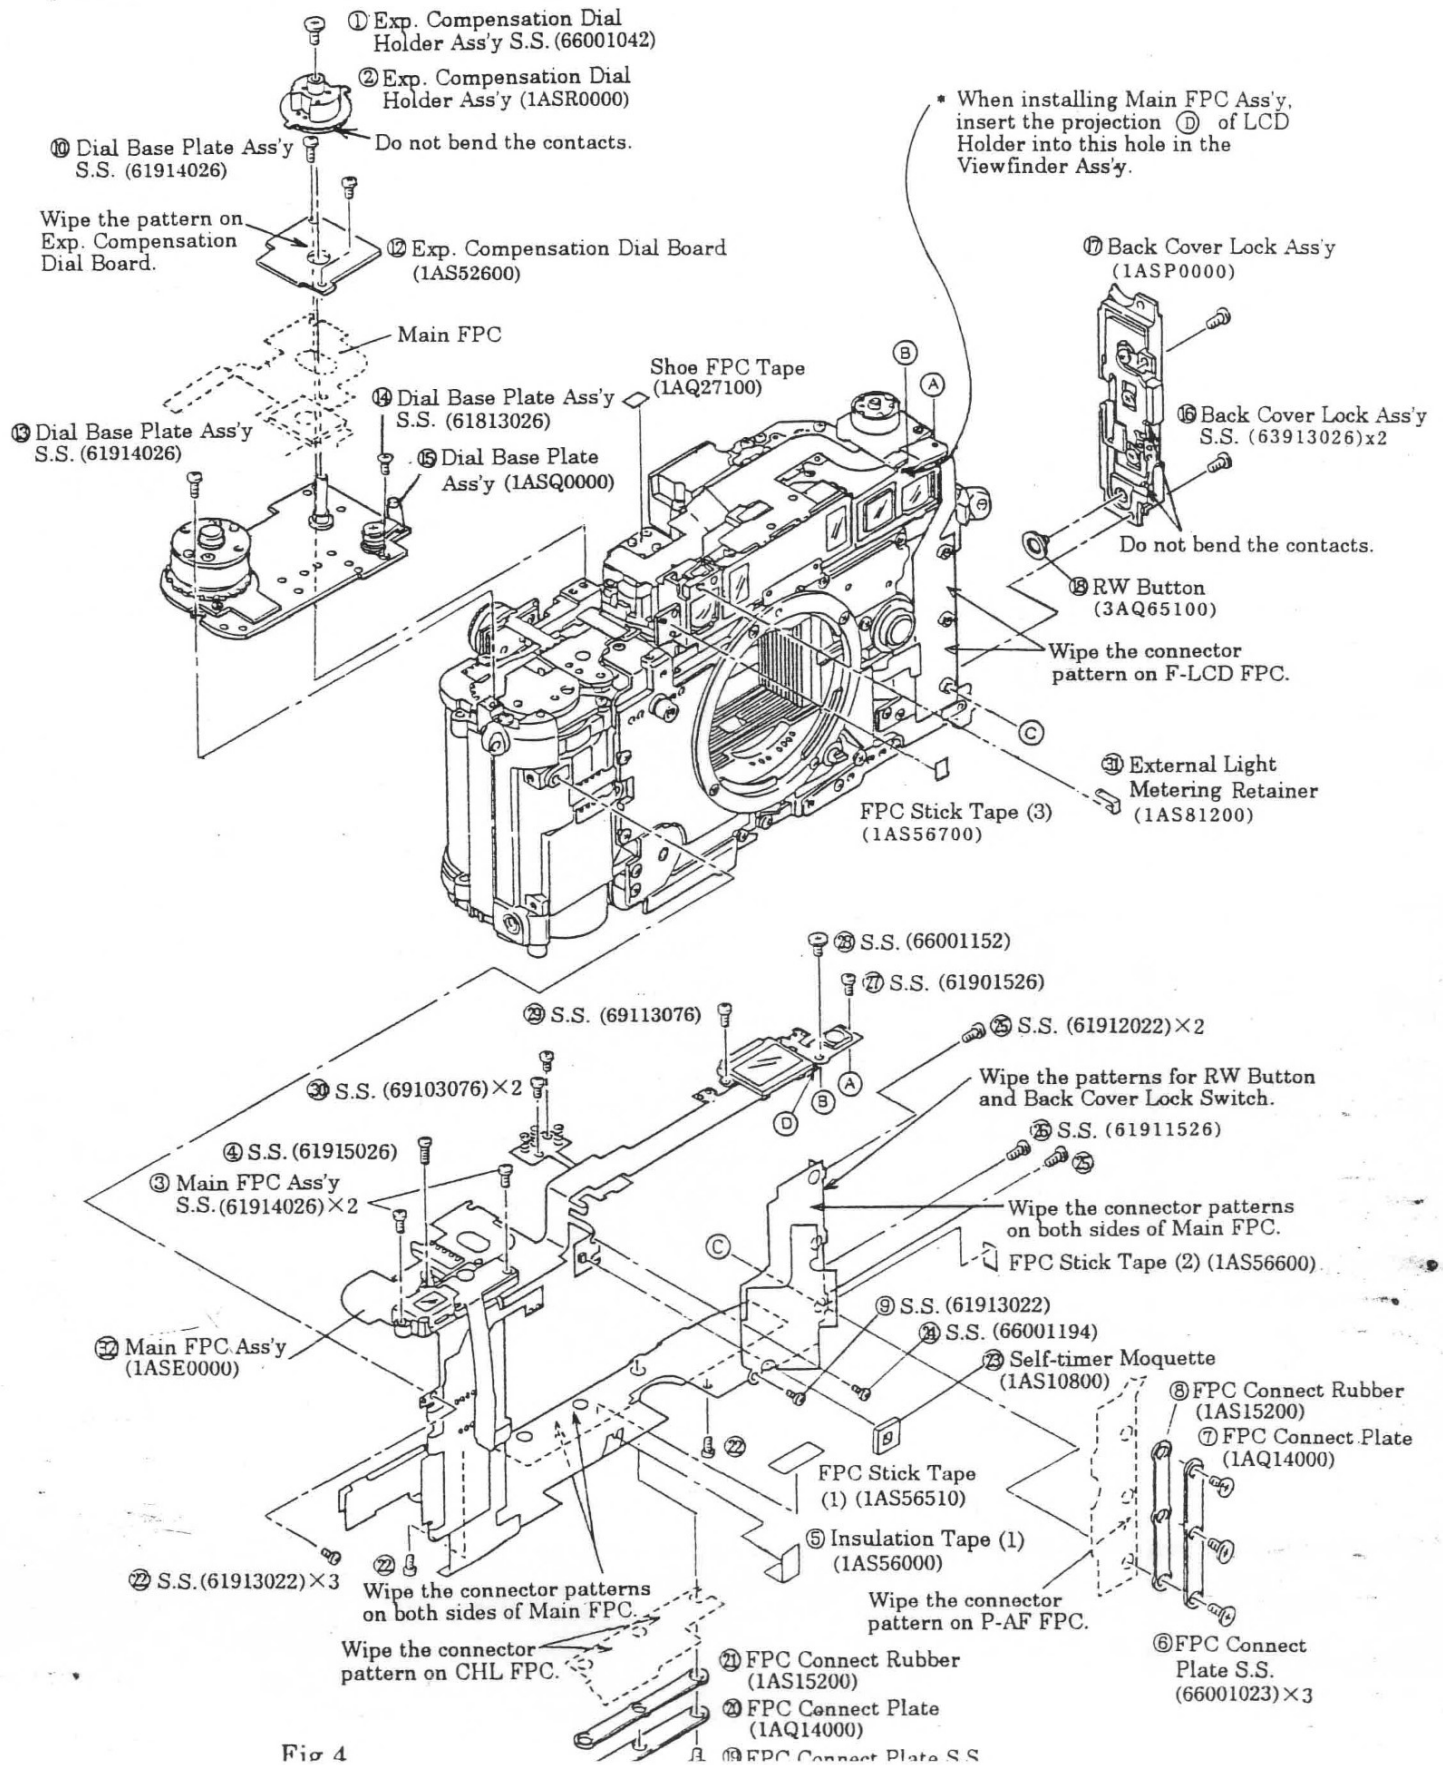

Fig 4
- 1) Remove parts in the numerical order of ① to ⑨ shown in Fig. 4.
- 3) Remove parts in the numerical order of ⑩ to ⑮ shown in Fig. 4.
- 5) Remove parts in the numerical order of ⑯ to ㉓ shown in Fig. 4.